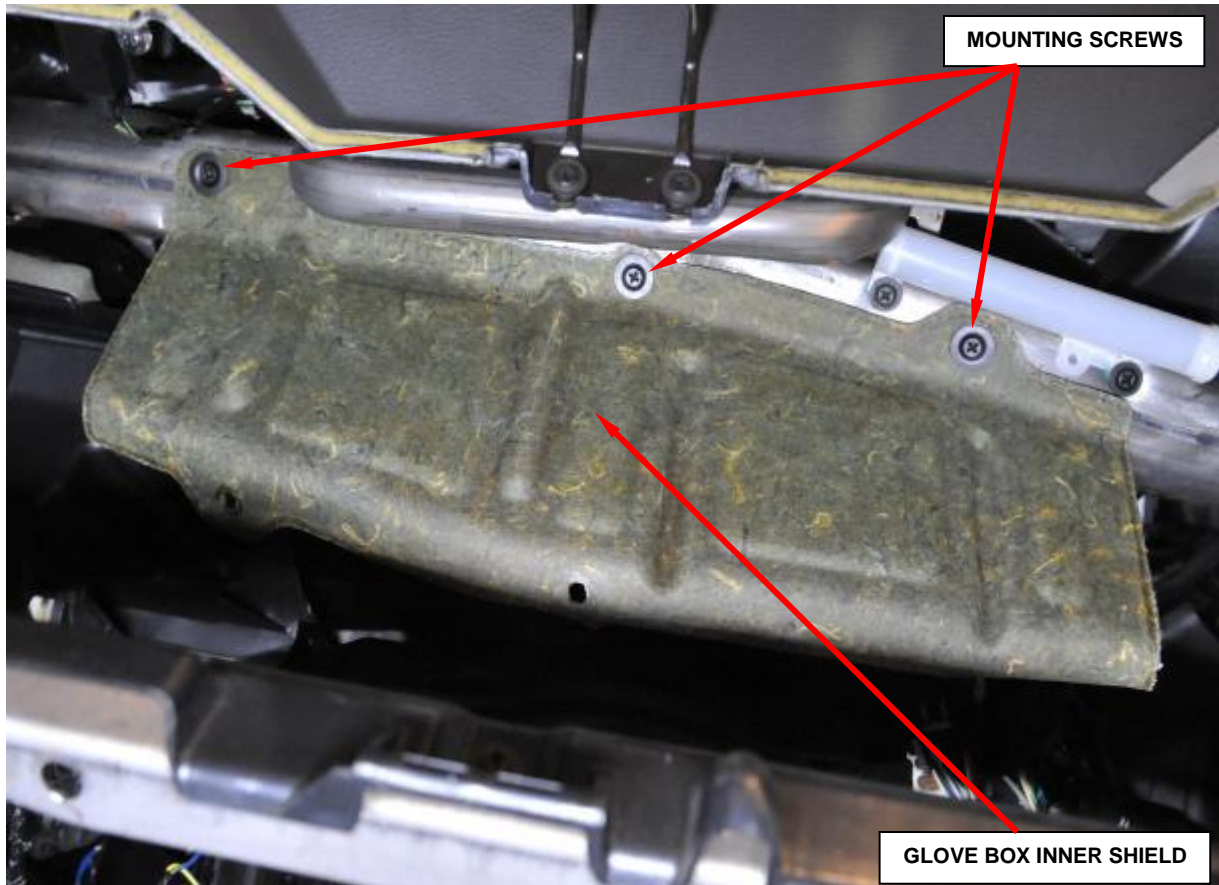

Figure 52 – Inner Glove Box Shield
4. Remove and save the three mounting screws to the inner glove box shield, if equipped (Figure 52).